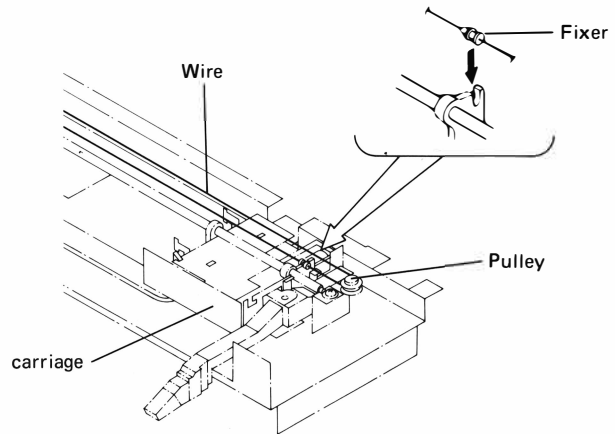

Fig. 6-2 Removing Carriage Wire
1. Remove the fixer from the carriage and the wire from the pulley. (See Figure 6.2)
2. Remove screw ⑧ and pull the guide bar away from the carriage in the direction indicated by the arrow. The carriage and tonearm assembly can now be removed.
3. Removing the spring will release the carriage board assembly, and removing screw ⑨ will release the mechanism base board assembly.